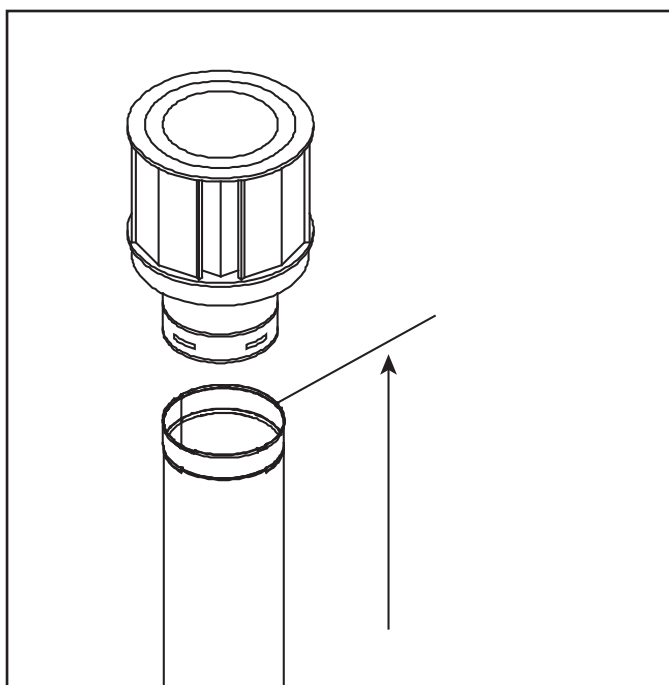

Figure 5.16 Measure to Top of Last Section of Pipe
- Vertical terminations are measured to top of last section of pipe. See Figure 5.16.